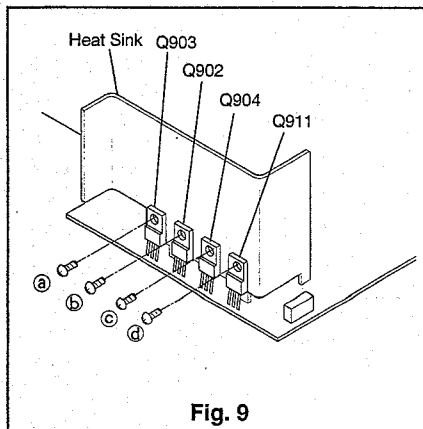

Fig. 9
- ▷ Remove the four screws (a, b, c and d): 669D222090) shown in Fig. 9.